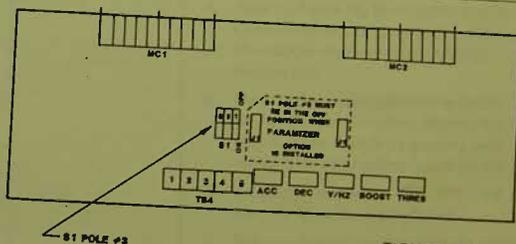

FIGURE 15
10.7 No voltage measured on TB3 with Reversing Control Module	<p>10.7.1 Refer to Figure 15. Locate S1. Be sure that S1, pole #3 is in the 'ON' position when the Paramizer option is not used.</p> <p>10.7.2 If S1, pole #3 is in the on position, refer to paragraph 10.5 and follow the procedure in that step.</p>
10.8.1 continued "Shear Pin" LED is illuminated. NO MOTOR CONNECTED TO TB3.	10.8.1.3 continued G. Refer to Figure 17. Your FHP ParaJust should now resemble Figure 15. Disconnect AP2 and AP3 from the transistor module. H. Remove the four (4) nuts holding the transistor module down to the chassis with a 1/8" nutdriver or socket wrench. I. Check the serial number on your FHP ParaJust controller. If your serial number is 8236 or subsequent, proceed to step J. If your serial number is prior to 8236, remove the gray fish paper which is glued down to the chassis under the transistor module. NOTE: DO NOT REMOVE THE WHITE HEAT SINK COMPOUND ON THE CHASSIS UNDER THE TRANSISTOR MODULE! THIS COMPOUND IS NECESSARY FOR PROPER HEAT TRANSFER. J. Remove the old transistor module and place the new module in its place. K. Replace the four 6-32 nuts which hold down the module. Tighten all four nuts evenly. Be sure that the two metal heat sink bars on each side of the module are in full contact with the chassis plate. L. Replace AP2 and AP3 onto the new transistor module. Replace the motherboard onto the chassis along with the five (5) mounting screws removed in Step F.